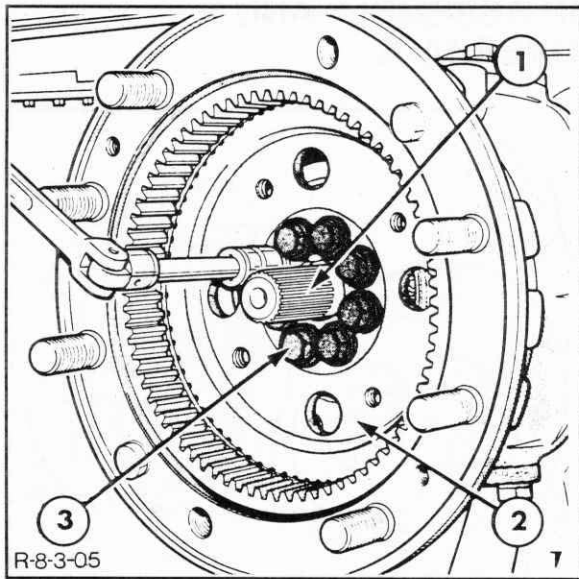
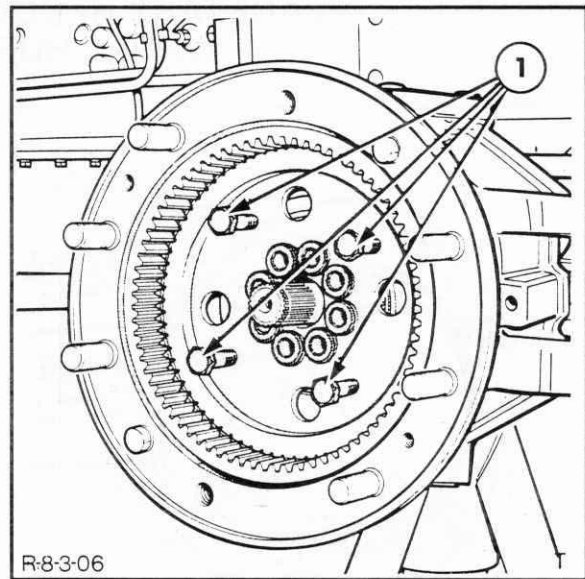

Figure 7-72
Figure 7-73
7. Remove the eight ring gear and carrier assembly retaining bolts, Figure 7-72, and remove the assembly by installing 4 of the bolts into the threaded jacking holes in the rear gear. Tighten the bolts evenly to draw off the planetary ring gear, Figure 7-73.